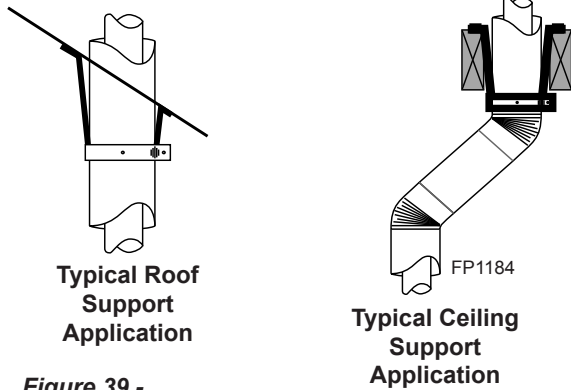
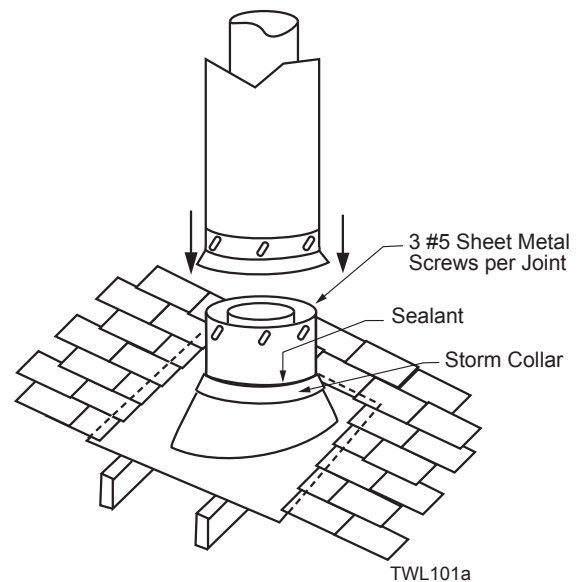

Figure 39 - Venting Supports
Figure 41 - Roof Flashing
- 7DVCS supports offsets. *Figure 39*. This application will require that you first determine the roof pitch and use the appropriate starter kit. (Refer to Venting Components List)
7. Install roof support (*Figure 39*) and roof flashing making sure upper flange is below the shingles. *Figure 41*
8. Install appropriate pipe sections until the venting is above the flashing. *Figure 41*
- 10. Add additional vent lengths for proper height. *Figure 41*